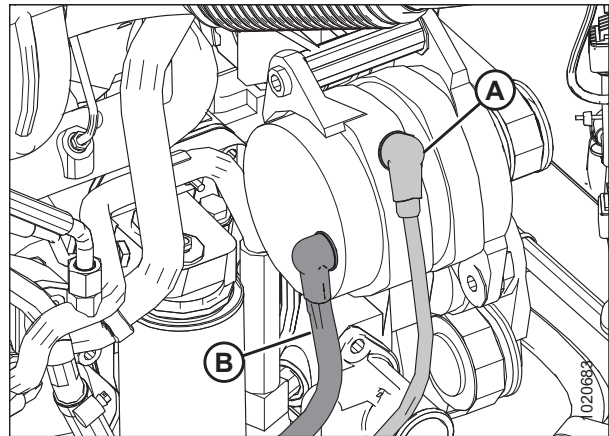

Figure 5.32: Alternator
- Do **NOT** short across battery or alternator terminals or allow battery positive (+) cable (B) or alternator wire to become grounded.
- If wires are disconnected from the alternator, refer to Figure 5.32, page 322 to ensure proper connection.